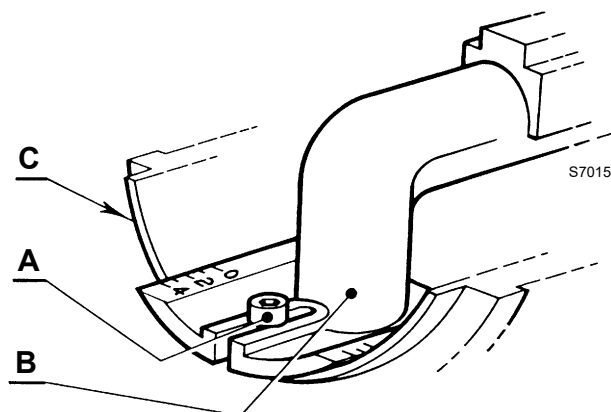

Fig. 12
- loosen the screw A) (Fig. 12), move the elbow B) so that the rear plate of the coupling (C) coincides with the set point;